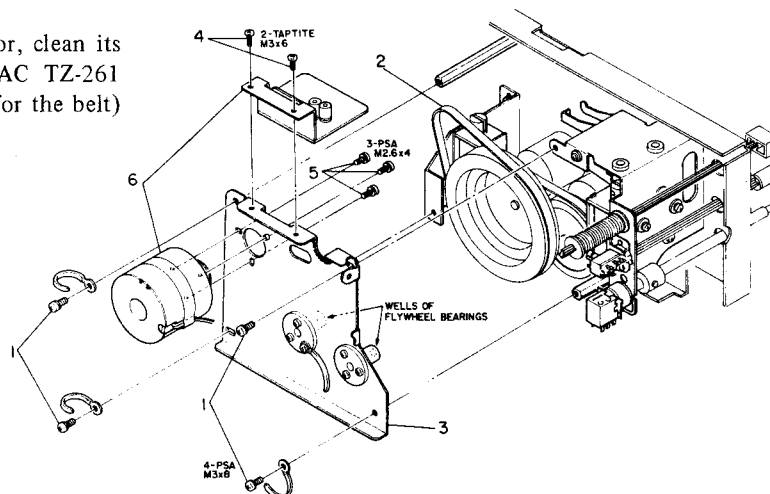

Fig. 4-7 Capstan motor
4. Fig. 4-7, 1, 2, 3.
3. Apply a film of light grease to the well of the flywheel bearing (See Fig. 4-7.)
5. Fig. 4-7, 1, 2, 3.